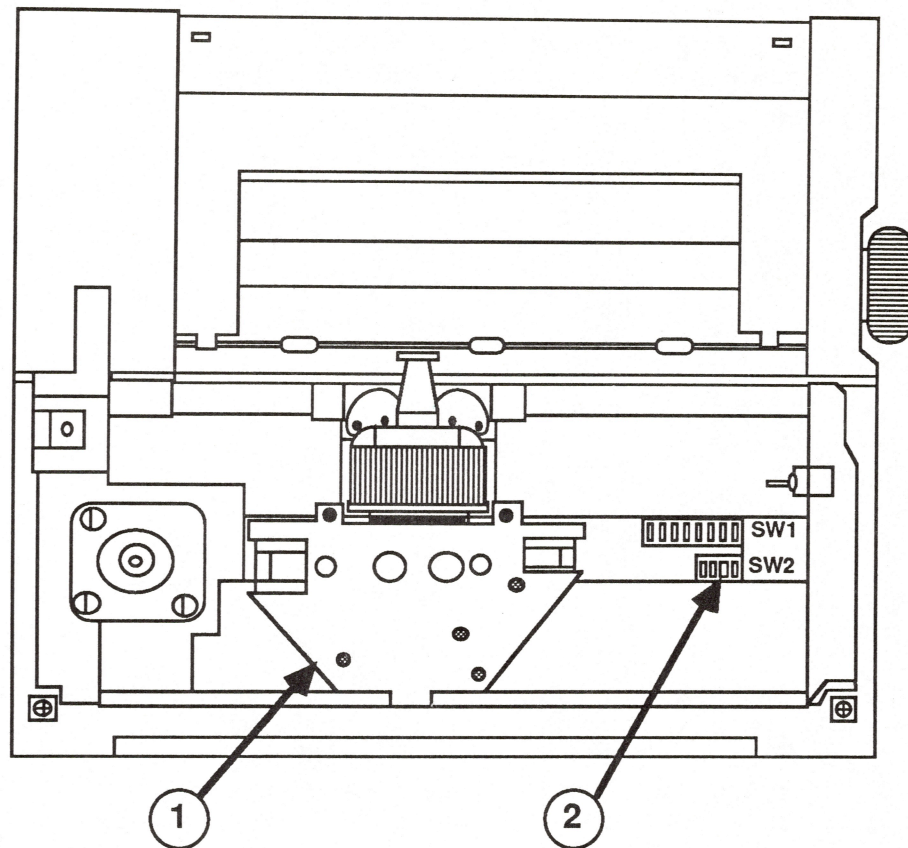

FIGURE 6
(See Figure 6, #1).
4. Locate switches SW 1 and SW 2. (See Figure 6, #2.)